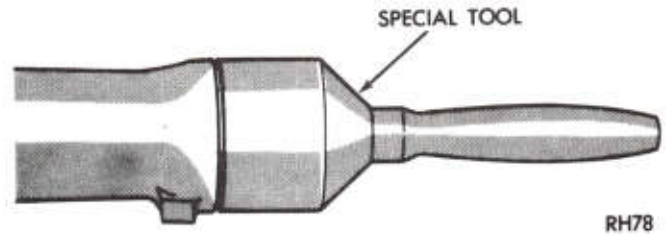

Fig. 9—Install Extension Seal
(4) To install a new seal, position seal in opening of extension housing and drive it into housing with Tool-C-3972 (Fig. 9).
(5) Carefully guide front universal joint yoke into extension housing and on the mainshaft splines. Align marks made at removal and connect propeller shaft to rear axle pinion shaft yoke.
(6) Fill transmission to level of fill plug. (Refer to Lubrication Group "O").